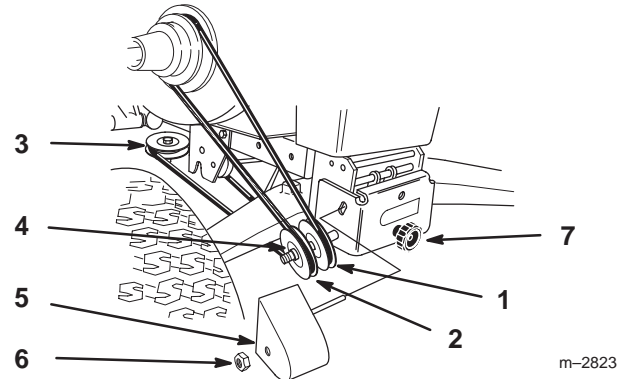

Figure 35
- Route belt around V and flat pulleys and loop over upper mower pulley (Fig. 35).
- Check that spacer is on the shaft and install the belt cover with rod in hole. Secure with a locknut (Fig. 35).
- Turn knob counterclockwise to tighten belt (Fig. 35). Tighten until there is 1 in. (26 mm) belt movement between engine clutch and idler pulley when slight pressure is applied to the belt.